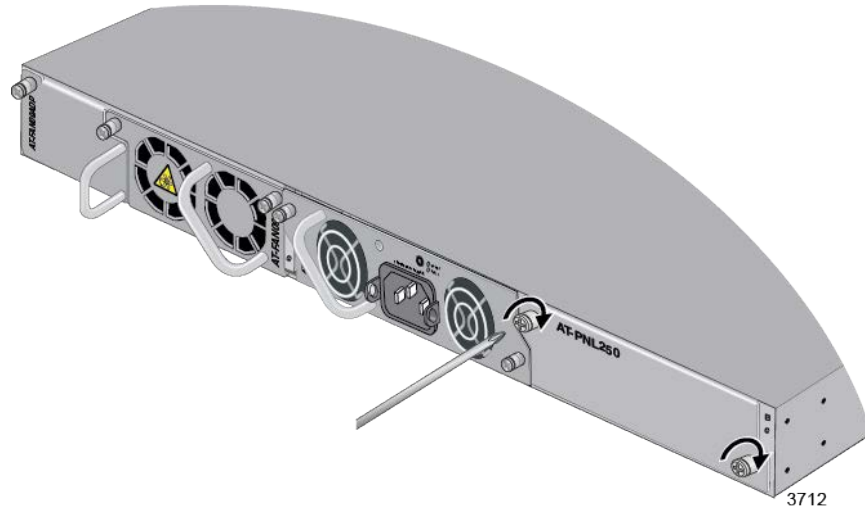

Figure 29. Tightening the Captive Screws on the Blank Panel for the Power Supply Slot
2. Tighten the two captive screws with a cross-head screwdriver to secure the panel to the switch. Refer to Figure 29 on page 81.